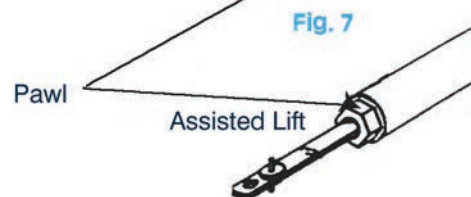

Fig. 7
- It is important that the balances used are suitable for the weight of the sash. They are manufactured in weight groups that are identified by a colour. (See Fig. 7).